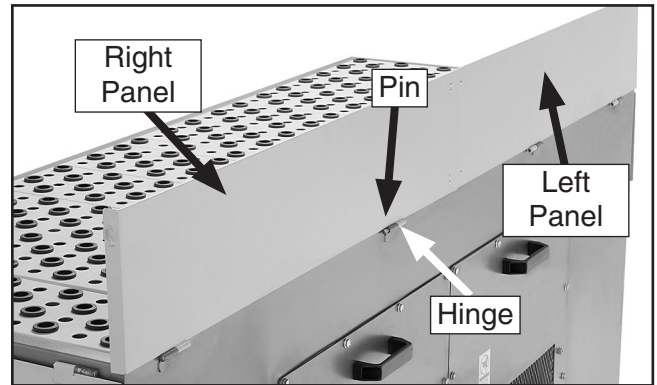

Figure 7. Center panels installed.
3. Align the right and left center panels with the rear downdraft table hinges, and secure with four pins as shown in **Figure 7**.